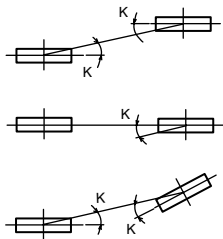

figure1 Parallel degree of pulley
1. Set the parallel angle of the fan and the motor pulley as shown in the table and figure 1 below.
2. Set the tension of the per one belt when the flexion load is within the range as shown in the figure 1 and table 2 below at the proper flexion. ( $A = 0.016 \times C$  mm)